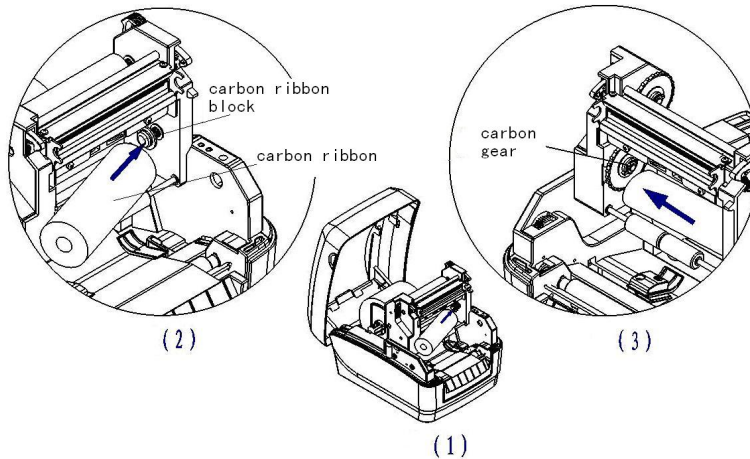

Figure 2.5.1
- 1) See figure 2.5.1, revolve and open the ribbon bracket to the position in figure 1. Insert one end of ribbon in accordance with the way in figure 2 to the ribbon end cap. Insert the other end of ribbon in accordance with the way in figure 3 to the ribbon thumb wheel. Pull the ribbon slightly to the outside, the issue ribbon is ready if there is elastic recovery. (See figure 2.5.1)